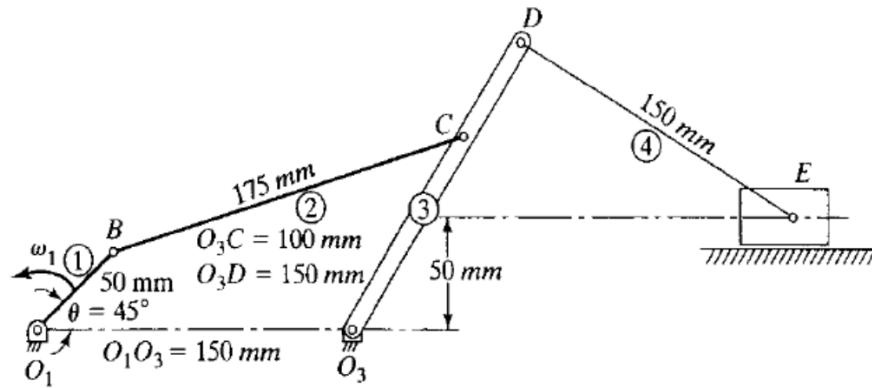

Figure 3: Fourbar with slider
4. [20 points] Perform position, velocity, and acceleration analysis for the mechanism depicted in Figure 3 using analytical methods. Assume ${}^0\omega^1 = \omega_1 k$, ${}^0\alpha^1 = \alpha_1 k$ with $\omega_1 = 5 \text{ rad/s}$ and $\alpha_1 = 2 \text{ rad/s}^2$.